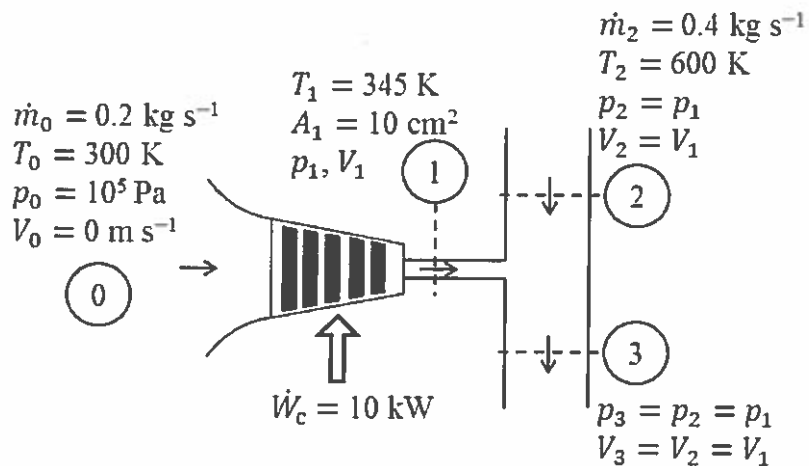

Fig. 3
5. (short) Air initially at rest, state 0, undergoes steady adiabatic compression and is mixed with a second stream of air as shown in Fig. 3. At inlet 0 the mass flow rate is $\dot{m}_0 = 0.2 \text{ kg s}^{-1}$ and the temperature and pressure are $T_0 = 300 \text{ K}$ and $p_0 = 10^5 \text{ Pa}$, respectively. The power supplied to the compressor is $\dot{W}_c = 10 \text{ kW}$. The exit flow at state 1 has a temperature of $T_1 = 345 \text{ K}$ and unknown velocity, V_1 , into a pipe with cross sectional area $A_1 = 10 \text{ cm}^2$. The flow at state 1 is mixed with a second flow at state 2 of equal pressure and velocity with a mass flow rate of $\dot{m}_2 = 0.4 \text{ kg s}^{-1}$ and temperature of $T_2 = 600 \text{ K}$.